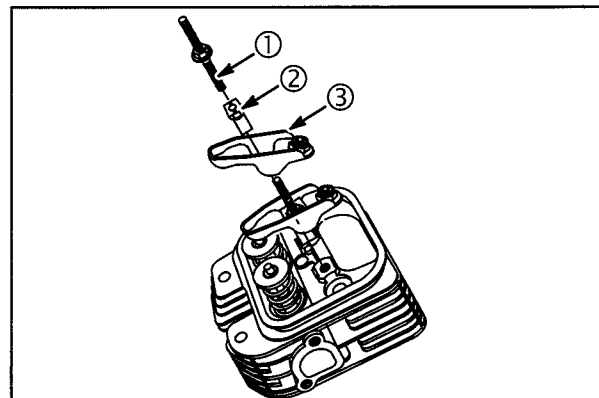
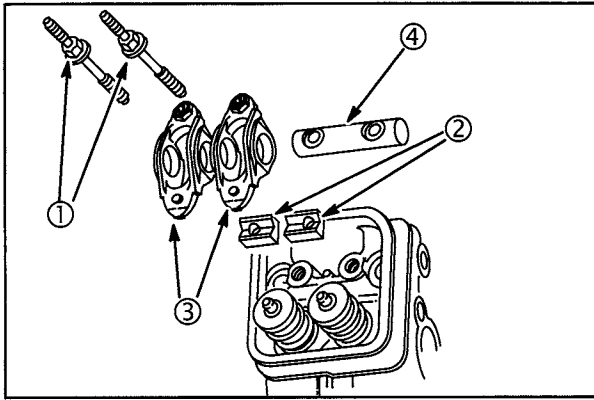

Fig. 4
Fig. 5
1. Remove two rocker studs (1) supports (2) and rocker arm assemblies (3), Fig. 4 (current) or Fig. 5 (early). Remove rocker arm shaft (4, early versions).